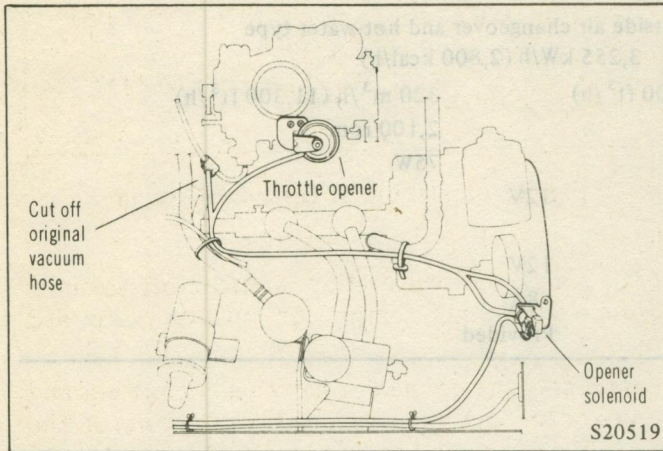

Fig. 35 Installing of Vacuum Hoses
(8) To install the hose between throttle opener and new solenoid, cut the original vacuum hose routed between carburetor and air cleaner at 100 mm (4 in.) apart from carburetor, and connect the new hose between carburetor and throttle opener using T joint in the kit as shown in Fig. 35.
NOTE: Clip the vacuum hoses and wiring harness to parts as shown in Fig. 35.